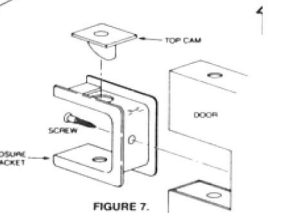

FIGURE 7.
- a. Insert a top nylon cam into the upper and lower door hinge closure bracket as illustrated so that cam base is flush with inner bracket surface. (see fig 7)